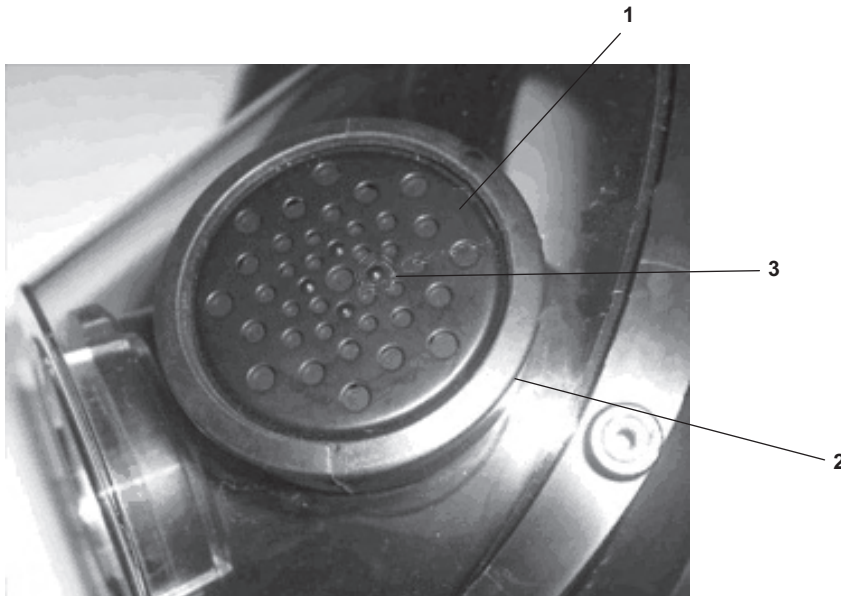

Figure 6-15. AV-3000® Voicemitter Removal and Installation
- (2) Remove the nosecup assembly IAW paragraph 6.6.3 step b.
- (3) To remove the voicemitter (figure 6-15, item 1), carefully roll back the exterior flap (figure 6-15, item 2) with the thumb and forefinger of one hand and, with the index finger of the other hand, pull the voicemitter free.
- (4) Perform step b.(3) for the other voicemitter.
- (3) Collapse the round end of the voicemitter duct and insert it through the hole in the lens, from inside the facepiece. Ensure that the correct voicemitter duct is installed.
- (4) Ensure that the exterior flap (figure 6-15, item 2) is on the outside of the lens and that the lens is fully seated in the exterior flap groove.
- (5) Perform steps c.(3) and c.(4) on the remaining voicemitter duct.
- (7) With the four raised dots (figure 6-15, item 3) facing up, insert the voicemitter (figure 6-15, item 1) into the exterior flap (figure 6-15, item 2) until it is fully seated.
- (8) Perform step c.(7) for the other voicemitter.